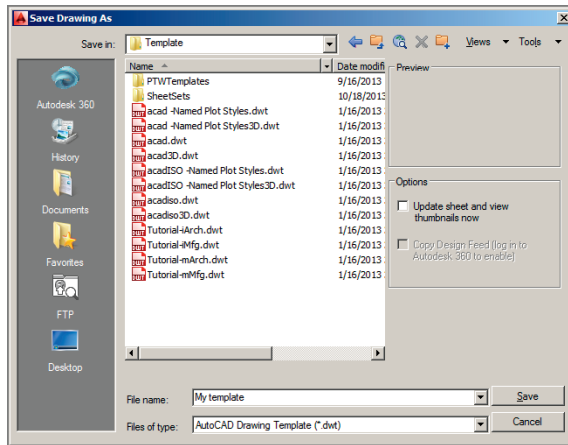

FIGURE 14.7 Saving a new drawing template
- 5. Click the Save As button in the Quick Access toolbar. Change the Files Of Type drop-down in the Save Drawing As dialog box that appears to AutoCAD Drawing Template (*.dwt). Type **My template** in the File Name text box (see Figure 14.7). Click Save.